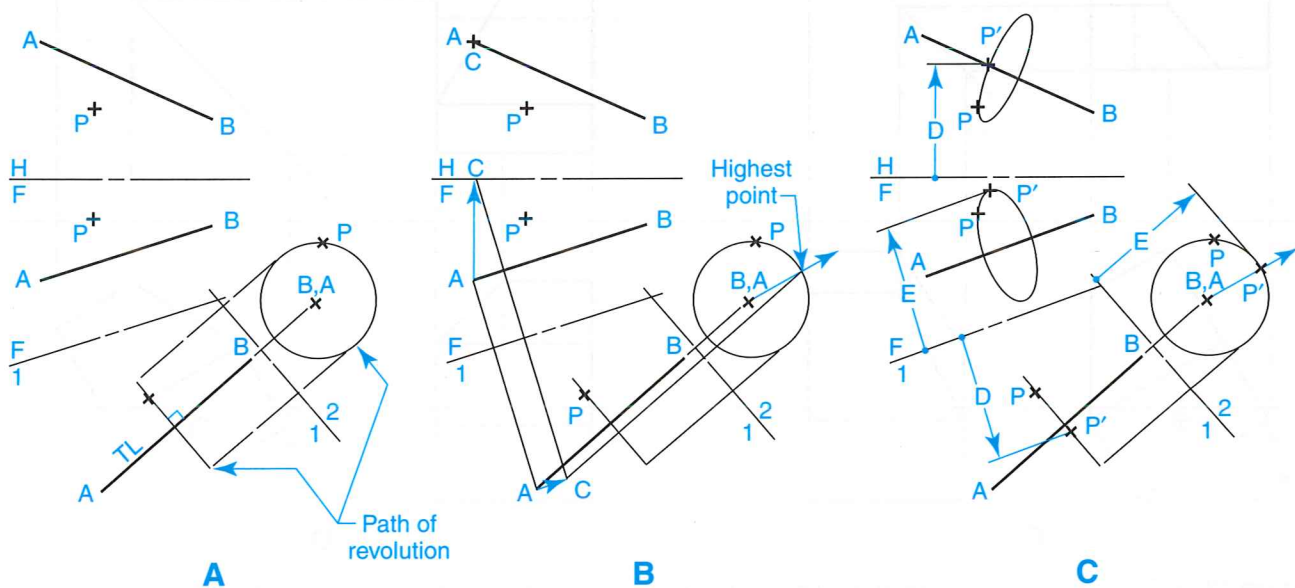

Figure 13-8. Revolving a point about an oblique axis to locate its path and highest point.
Given the top and front views of an oblique axis and a point of rotation, use the following procedure, **Figure 13-8**.
1. The top and front views of the oblique axis and point of rotation are given. Refer to **Figure 13-8**.